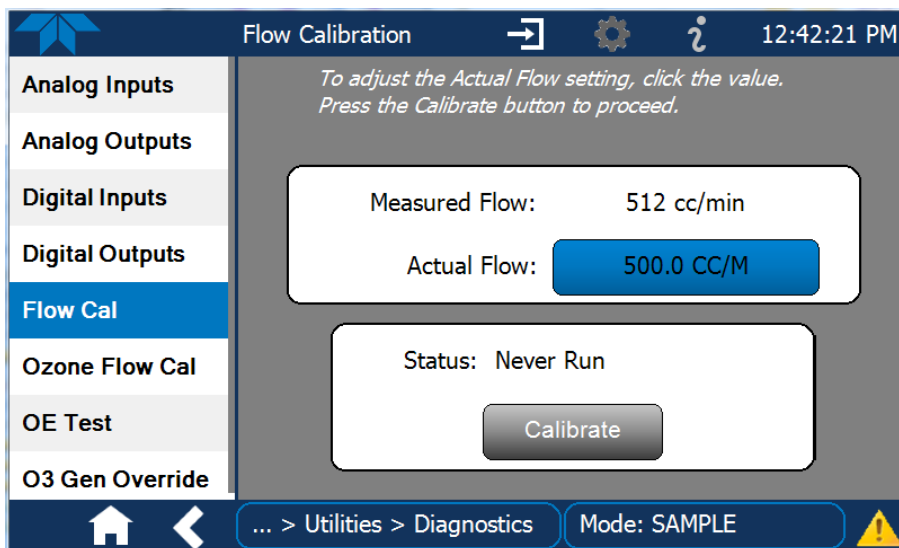

Figure 5-13. Flow Calibration Menu
1. In the Utilities>Diagnostics>Flow Cal or Ozone Flow Cal menu (Figure 5-13), edit the Actual Flow value by inputting the reading from the external flow meter obtained in the corresponding check of the flow to be calibrated.